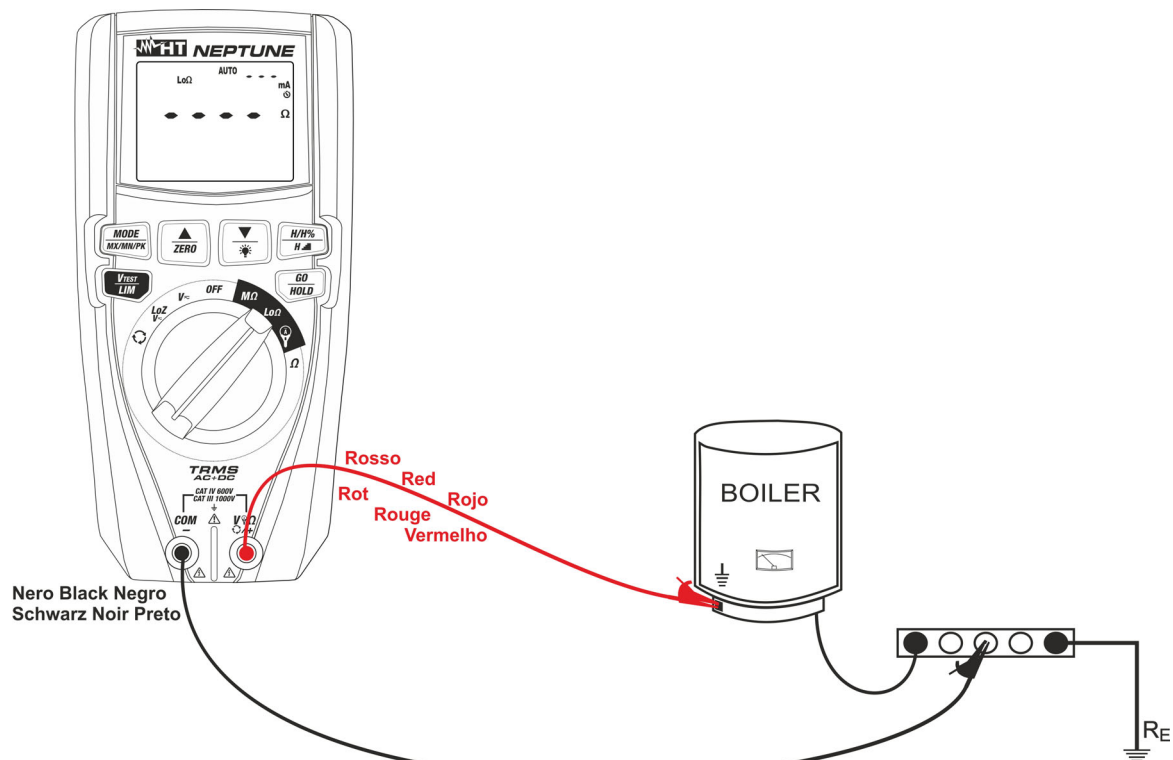

Fig. 25: Use of the instrument for continuity test in AUTO mode
7. Insert the red lead into input terminal **V $\Omega$ +/+** and the black lead into input terminal **COM/-**, and connect the instrument to the system to be tested (see Fig. 25).